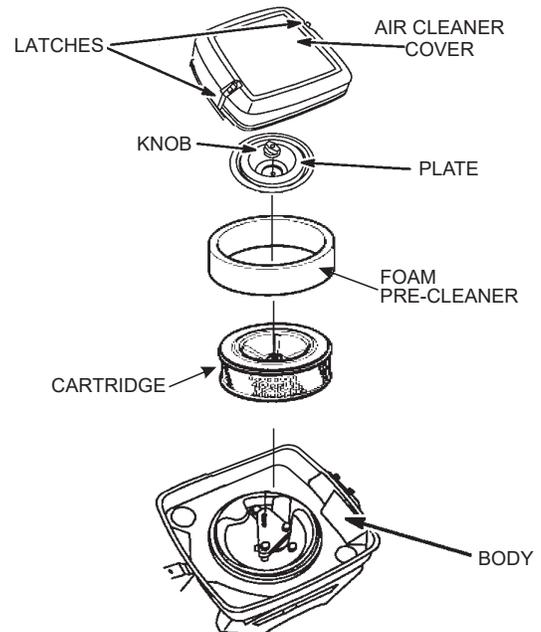

Figure 34. Air Cleaner Components
1. Release the **latches** (Figure 34) on each side of the **air cleaner cover** and remove the cover.
2. Remove the **knob** and the **plate** (Figure 34).
3. Remove the **foam pre-cleaner** and **cartridge** (Figure 34) carefully to prevent dirt and debris from entering the carburetor.